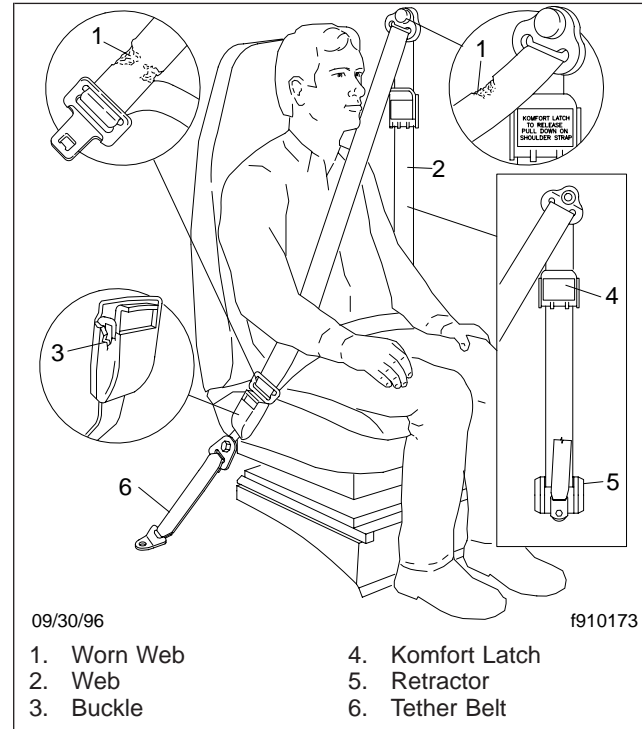

Fig. 9.10, Seat Belt Inspecting
29. Inspect the seat belts and tether belts (if so equipped). See Fig. 9.10.